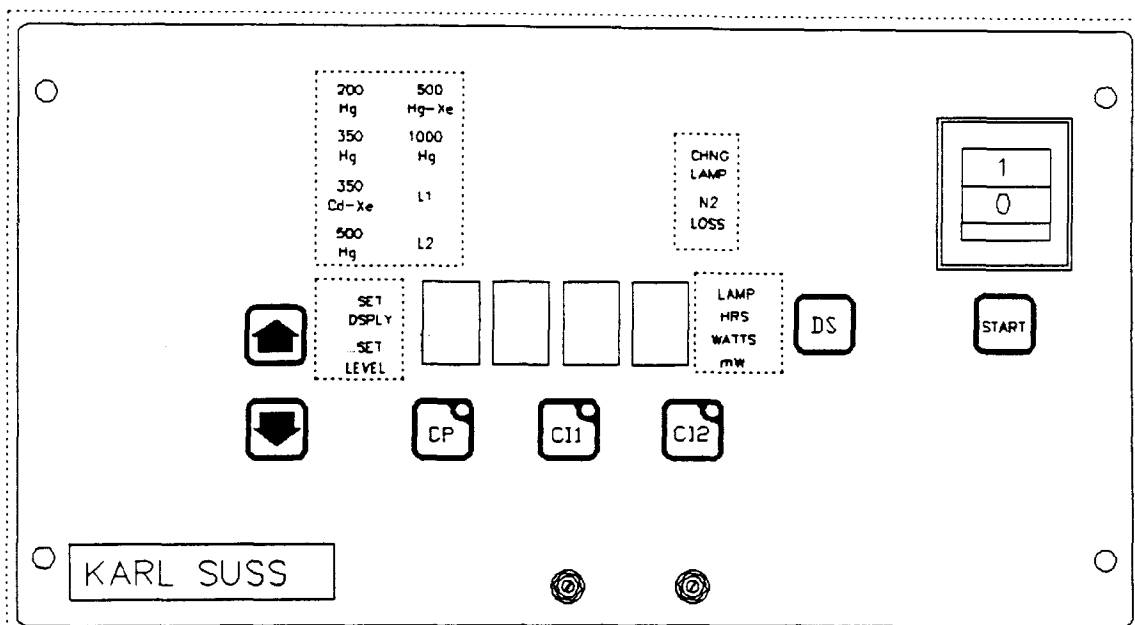

Figure 4-1 Front Panel Controls
4.1 Front Panel Controls and Functions (Ref.: Figure 4-1)